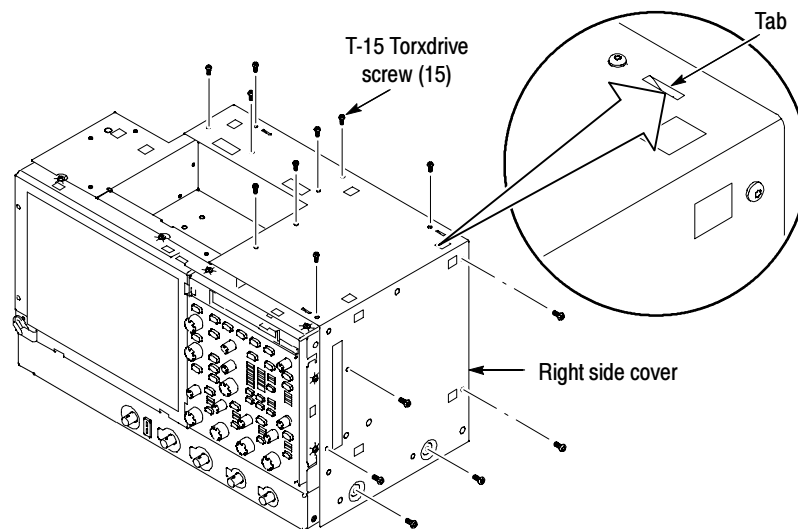

Figure 6: Right-side cover removal
1. *Remove the top right-side metal cover:* See Figure 6.
3. Remove the fifteen T-15 Torxdrive screws that secure the top right-side cover to the top and right sides of the chassis. Discard one screw, it will be replaced with a new T-15 shorter screw when reassembled. See Figure 6.
- a. Reinstall the right-side cover, perform the procedures in reverse order, steps 2 and 3, on page 11. See Figures 6 and 7, on pages 11 and 12 for screw locations.